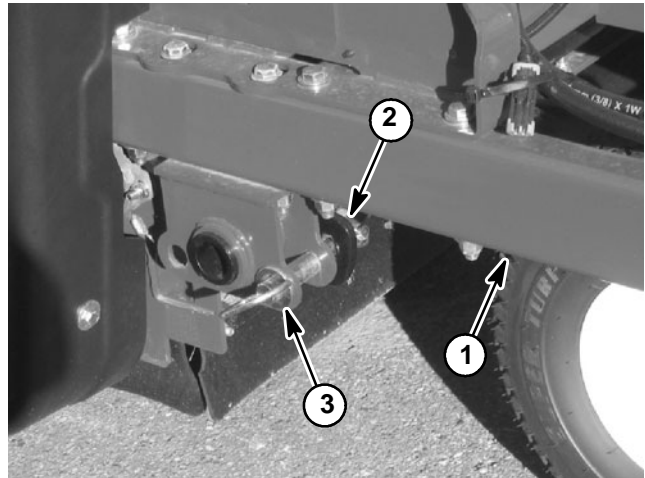

Figure 1
2. Secure lift axle to frame with hitch pin and lynch pin to prevent lift axle from shifting (Fig. 1).